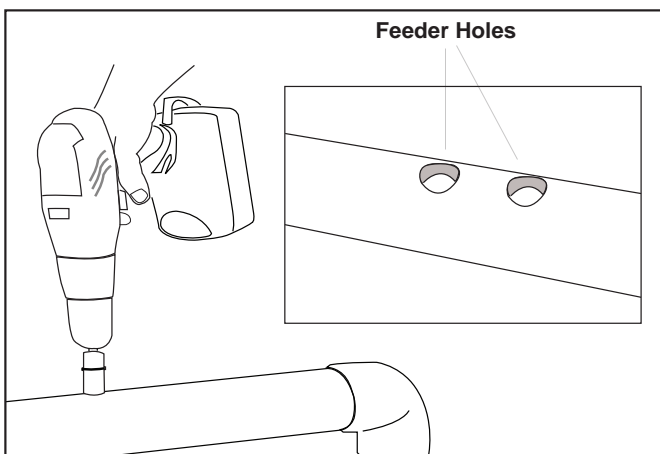

Figure 7. Drilling Feeder Holes
7. Drill the feeder holes using the holesaw provided. Ensure holes are clean and smooth (see Figure 7).